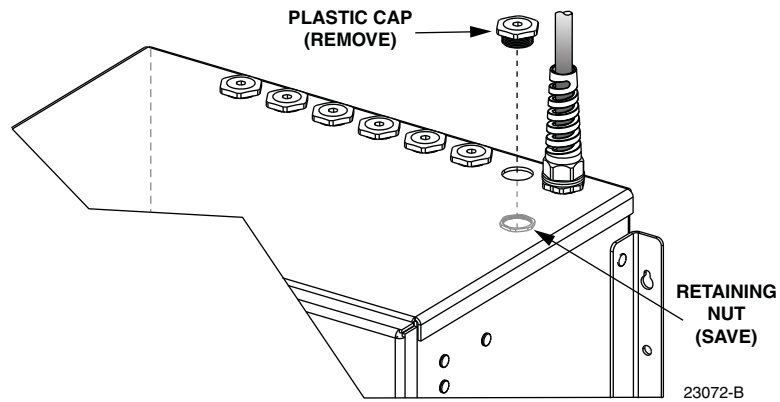

Figure 44. Plastic Cap Removal
3. Remove the plastic cap and retaining nut from the selected distribution cable entry/exit hole as shown in Figure 44. Save the retaining nut for reuse.